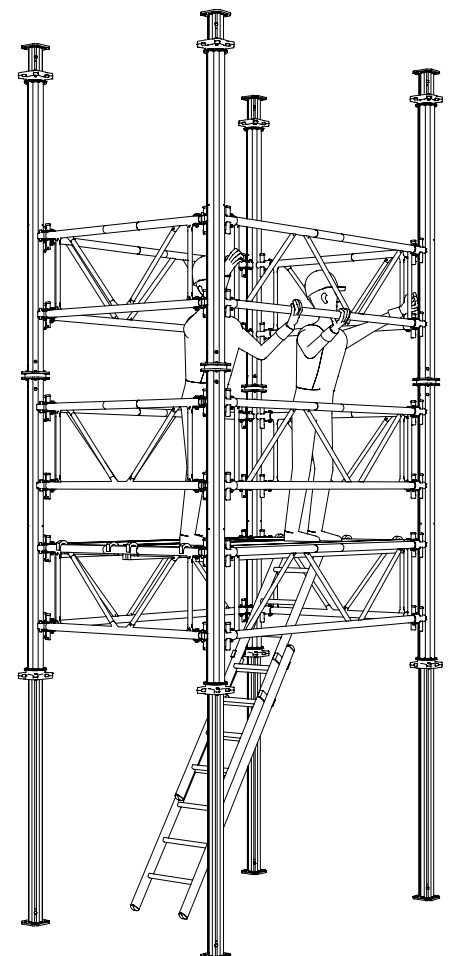

Fig. A4.04
- Mount props with retracted inner tubes. Spindle out to the required length only after bracing has taken place with the frames. (Fig. A4.04)